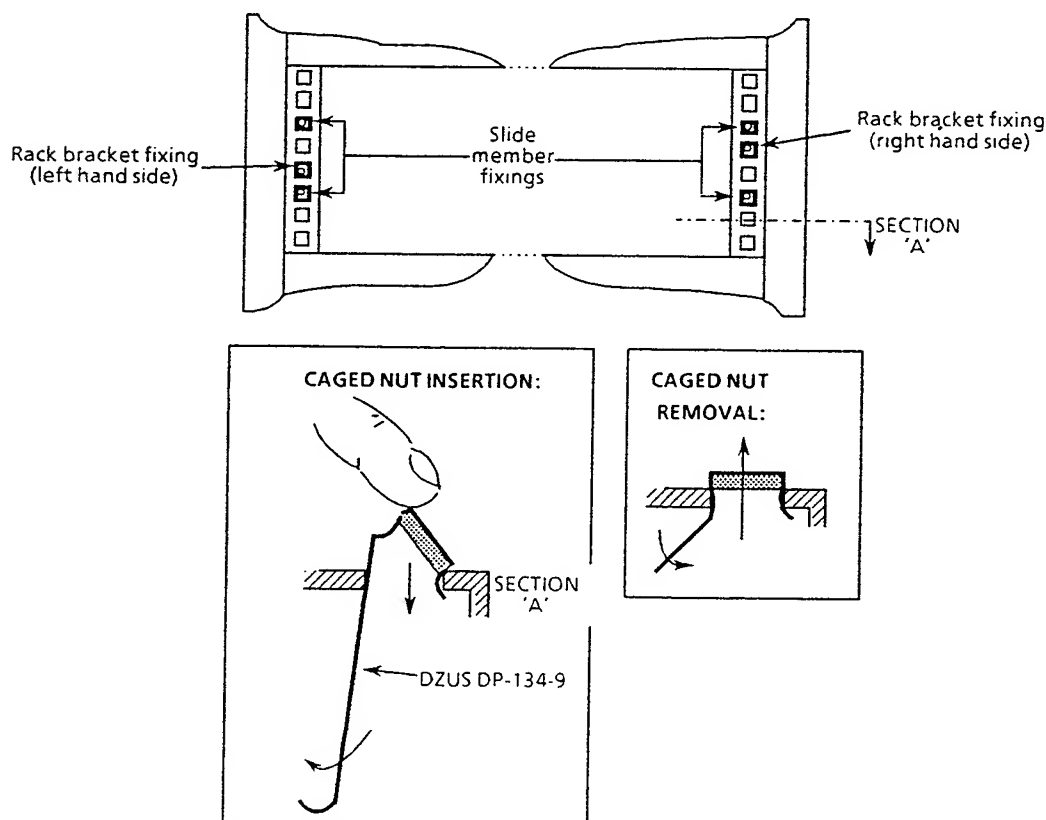

Fig. 2.6 *Caged nut insertion in Imrak Series 80 (and similar) cabinets*
- 4.3.4 Fit the M6 caged nuts for outer slide member and rack slide member and rack mounting bracket fixing into the rack, in the positions shown in Fig. 2.6 How to insert and remove caged nuts is shown in the figure detail.